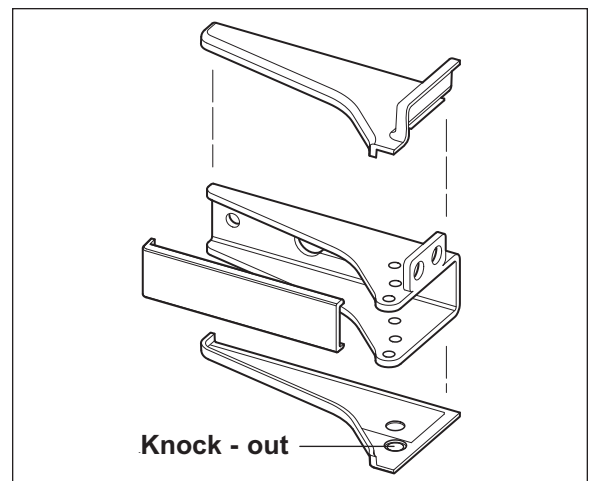

Figure 2
1. Remove backing paper of adhesive pads and bond to hinge (See Figure 2).
2. Install center covers as shown in Figure 2 (magnets will secure these covers).